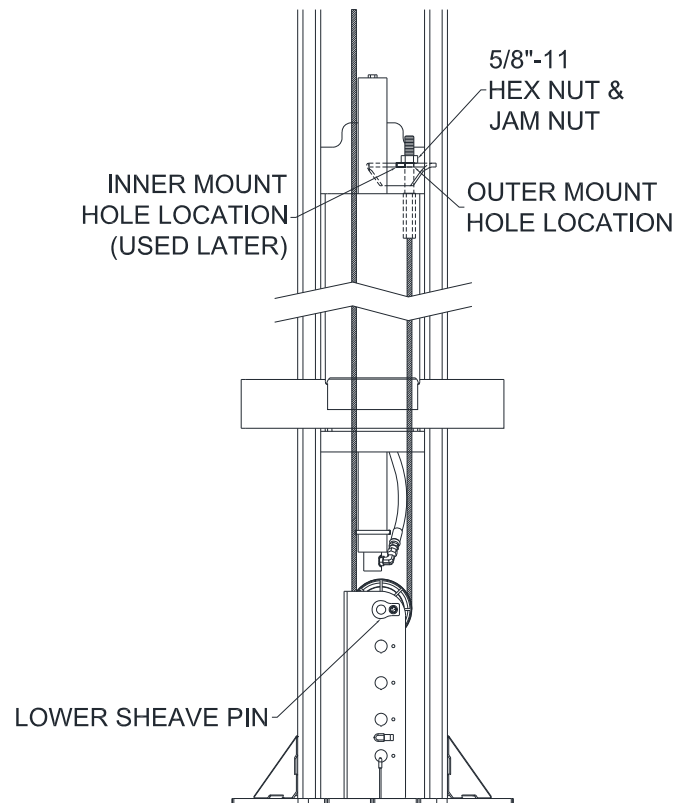
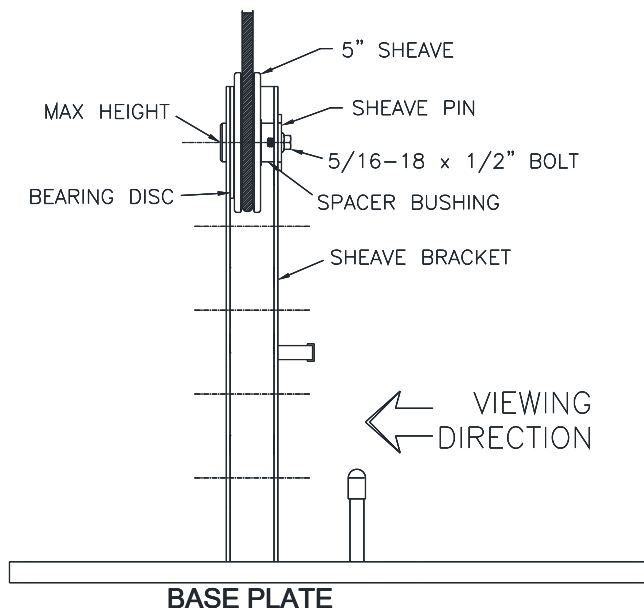

Fig. 2 – Cable Routing LAYOUT
Fig. 4 – Sheave Assembly and Cable Routing
- Remove hex bolt and sheave pin from sheave bracket, **Fig. 2**.
- 4) Route cables as shown in **Fig. 2** and **Fig. 4**. Ensure cables do not wrap around hoses during routing.